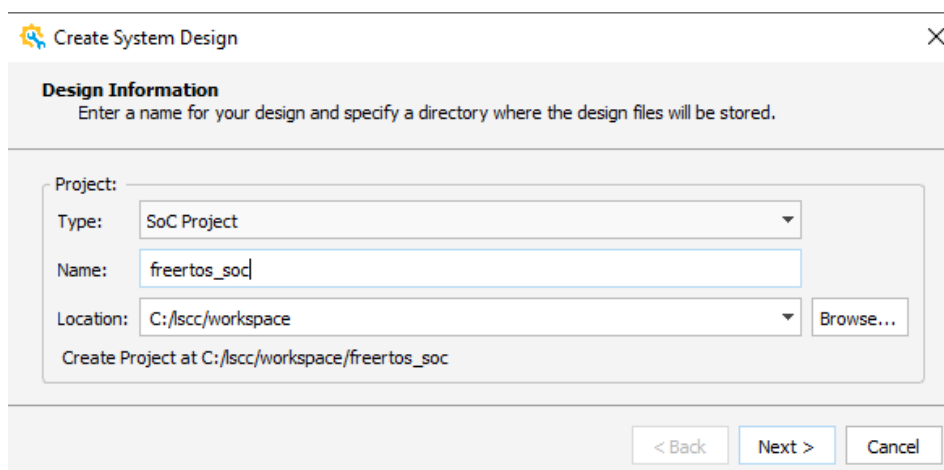

Figure 3.1. Create System Design
3. Select SoC Project type, provide a project name and the project workspace location. Figure 3.1 shows an example of creating a new system design.